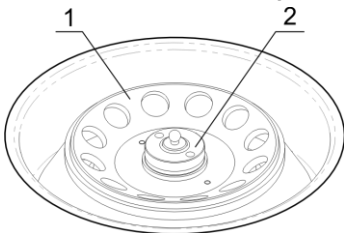

Figure 1. Installing the rotor
- Place the rotor (fig. 1/1) and secure it tightly with the fixation nut, placing the nut with the key holes up (fig. 1/2) and turning it clockwise by securing wrench.